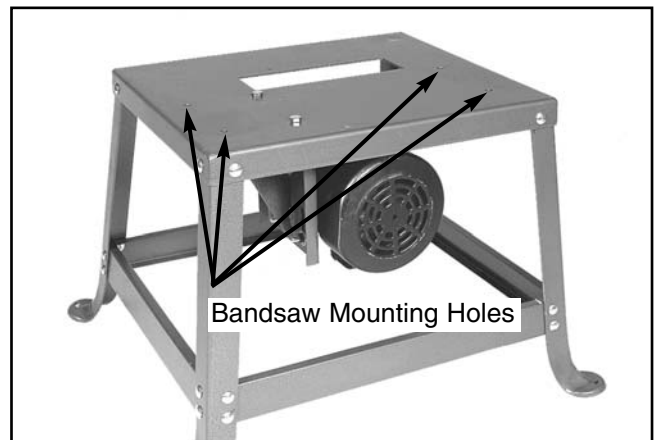

Figure 6.
- Attach the bandsaw to the stand with four (4) $\frac{3}{8}$ "-16 x 2" hex bolts, four (4) $\frac{3}{8}$ "-16 hex nuts, and eight (8) $\frac{3}{8}$ " washers provided. The bolts on the left side should go through the motor mount bracket. Hand tighten for now.
- Working from the bottom up, tighten all stand bolts, motor mount bracket to the stand top (leave the motor bolts loose for now), and the bandsaw mounting bolts at the holes shown in **Figure 6**.